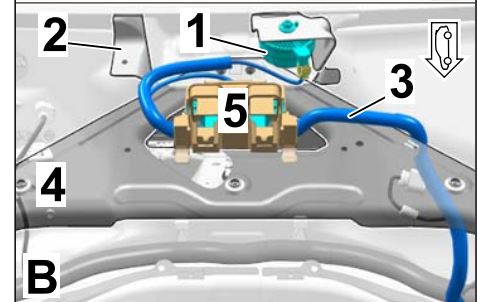

Figure 15
- 2.2.3 Secure the engine noise pulse sender, facing downwards, in the bulkhead holder (plenum panel) using an M6 hexagon nut (1 x) (⇒ *Figure 15*)